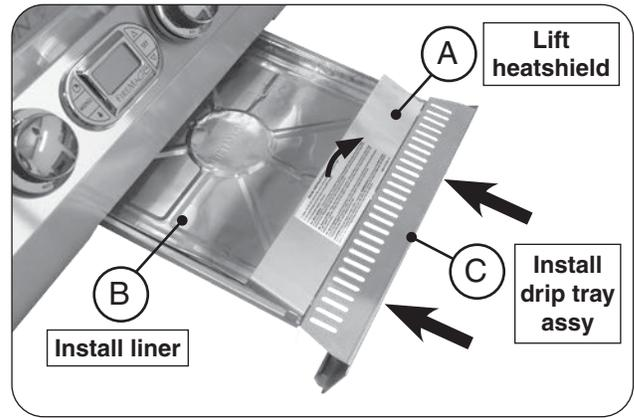
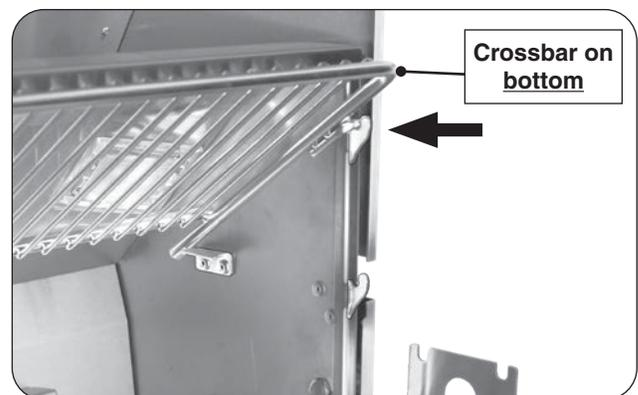

Fig. 24-1 Install drip tray
Fig. 24-4 Place warming rack in storage position
1. Lift the heatshield slightly, then place a liner into the drip tray (Fig. 24-1, A and B).
2. Then fully insert the drip tray assembly into the bottom front opening of the control panel (Fig. 24-1, C).
Use the top hooks for storage (see Fig. 24-1 and Fig. 24-4).